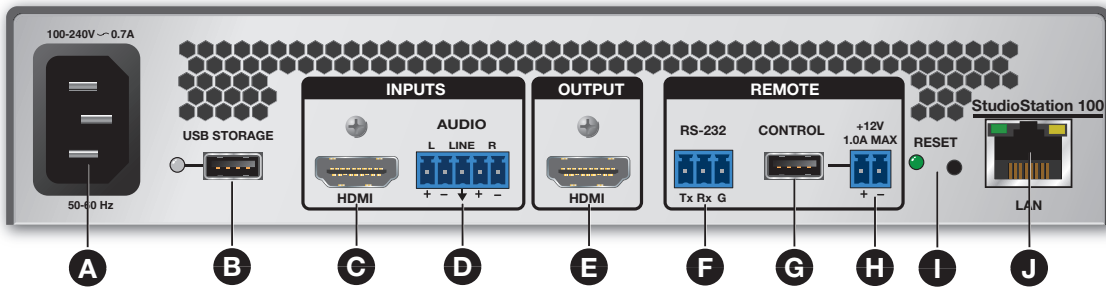
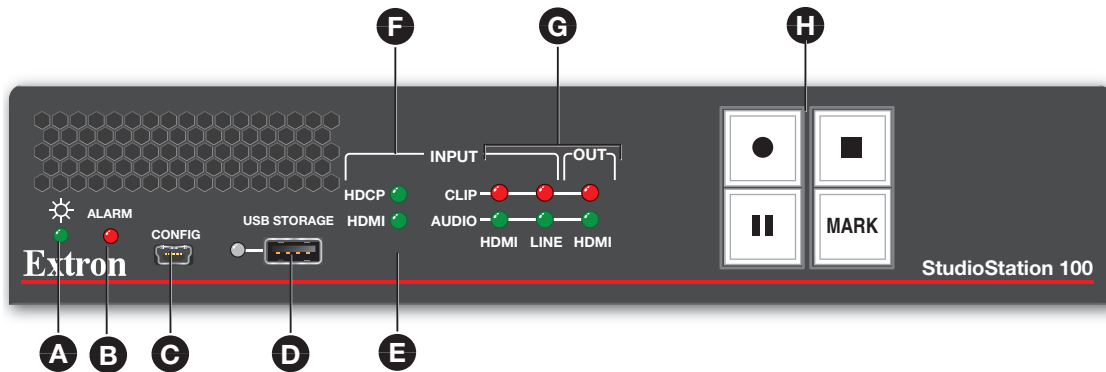

Figure 1. StudioStation 100 Rear Panel
Figure 3. StudioStation 100 Front Panel
The StudioStation 100 can be configured and controlled from the rear panel RS-232 captive screw port (see figure 1, **F**), the front panel mini USB B Config port (see **figure 3, C** on page 3), or the LAN port (see figure 1, **J**) using SIS commands and DataView. It can also be configured and controlled using a standard web browser from the LAN port (via telnet port 23). Because the LAN port must be connected for streaming output, Extron recommends using it for configuration, control, and firmware upgrades.
- F Remote** — To control the StudioStation 100 using SIS commands over RS-232, connect the host RS-232 cable to the rear panel (see the illustration at right) with a 3-pole captive screw connector for bidirectional serial host control (see figure 1 on the previous page).
- E HDMI preview output** — Connect an HDMI (or DVI with a suitable adapter) display device to this HDMI output (see figure 1 on page 1). The preview output switches between the record preview content and the internal browser using an attached USB keyboard and mouse (optional), which can be connected to either the front panel or rear panel USB ports.